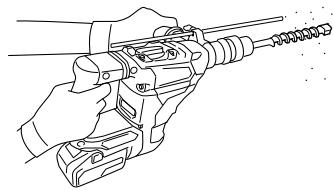

Fig. 13
1. How to drill holes (Fig. 13)